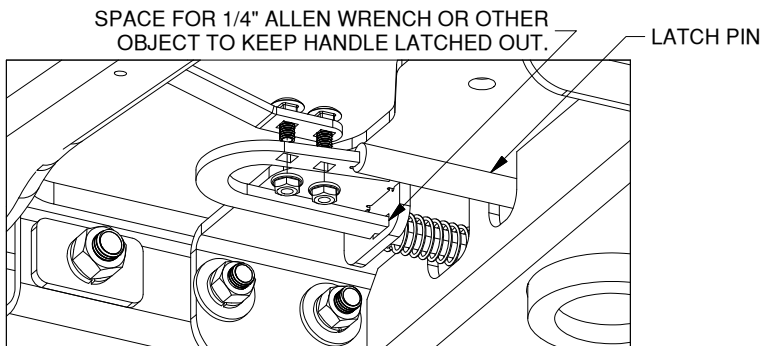

Figure E2: View looking up at latch mechanism of center section.
2. **Lock out Latch Pin.** Retract the latch pin of the center section and lock it out by pushing the mechanism toward the cab, see Figure E2. In order to prevent the mechanism from latching while attaching the handle, place a 1/4" allen wrench, thick piece of wire, or other object into the space shown on the mechanism to prevent it from latching unexpectedly, see Figure E2.
3. **Secure Handle.** Position the handle above the latch mechanism, and insert the 5/16" bolts through the holes in the latch mechanism. Secure these bolts with the 5/16" locking flange nuts, see Figure E2. Remove the object that is preventing the mechanism from latching and allow the pin to latch.